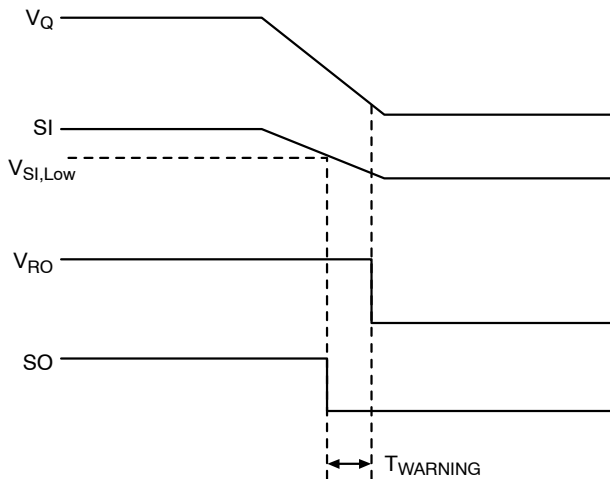

Figure 22. SO Warning Waveform Time Diagram
Figure 22 shows the SO Monitor timing waveforms as a result of the circuit depicted in Figure 21. As the output voltage (VQ) falls, the monitor threshold (VSI,Low), is crossed. This causes the voltage on the SO output to go low sending a warning signal to the microprocessor that a reset signal may occur in a short period of time. TWARNING is the time the microprocessor has to complete the function it is currently working on and get ready for the reset shutdown signal.